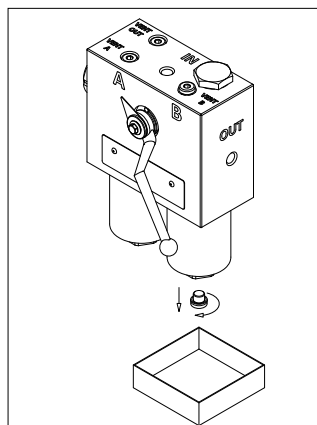

fig. 6
- (Fig. 6) Unscrew the drain plug after placing a vessel to collect the operating fluid